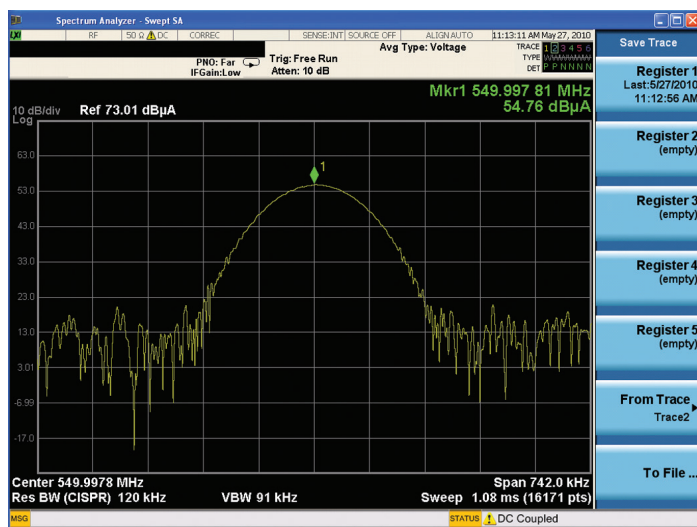

Figure 15. Preliminary diagnostics trace.
1. Connect the diagnostics tools as shown in Figure 15.
Using information stored earlier from the conducted and radiated tests, tune the signal analyzer to one of the problem frequencies with a narrow enough span to give adequate differentiation between signals. Move the close field probe slowly over the DUT. Observe the display for maximum emissions as you isolate the source of the emissions. After you have isolated the source of the emissions, record the location and store the display to an internal register (See Figure 15).